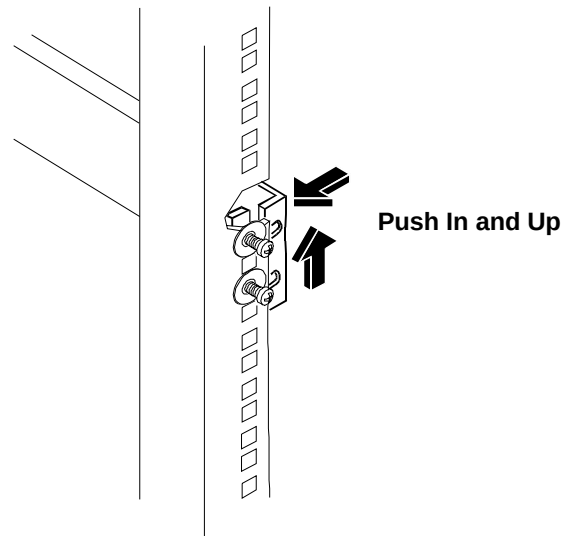

Figure 3-4. Mounting a Slide to a Column
2. Place the mounting flange of the slide between the inside of the column and the bar nut (see Figure 3-4). Do this at the front and rear of the slide.